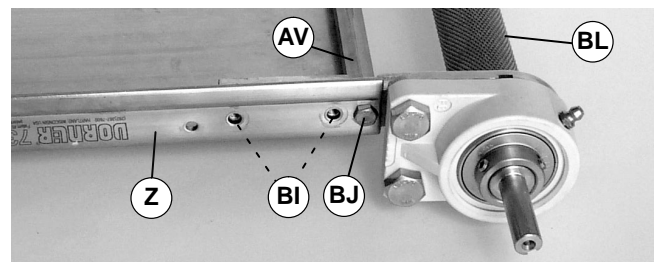
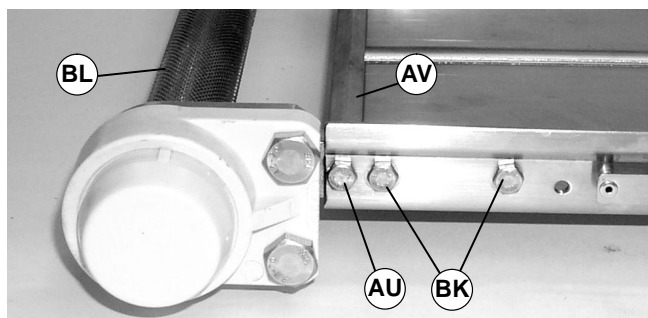

Figure 34
Figure 35
NOTE: Two screws (BI of Figure 34) were removed in step 1.
If conveyor is in the upright position, cross support post (AV) will not be secure and may drop when screws (BJ of Figure 34 and AU of Figure 35) are removed.
2. Remove screw (BJ) from conveyor (Z) and cross support post (AV).
3. Remove screw (AU of Figure 35) and cross support post (AV) from conveyor (Z) and drive spindle assembly (BL).
NOTE: For a conveyor with a Heavy Load Bottom or Top Gearmotor Mounting Package, the two screws (BK of Figure 35) were removed in step 1.
If conveyor is in the upright position, drive spindle assembly (BL of Figure 35) will not be secure and may drop when screws (AU, BJ and BK of Figures 34 and 35) are removed.
4. Remove two screws (BK of Figure 35) and drive spindle assembly (BL) from conveyor (Z).
3. Position drive spindle assembly (BL of Figure 35) on conveyor (Z) and loosely secure with two screws (BK).
4. Install cross support post (AV of Figure 35) and secure with two screws (BJ of Figure 34 and AU of Figure 35). Tighten screws to 33 in-lb (3.7 Nm).